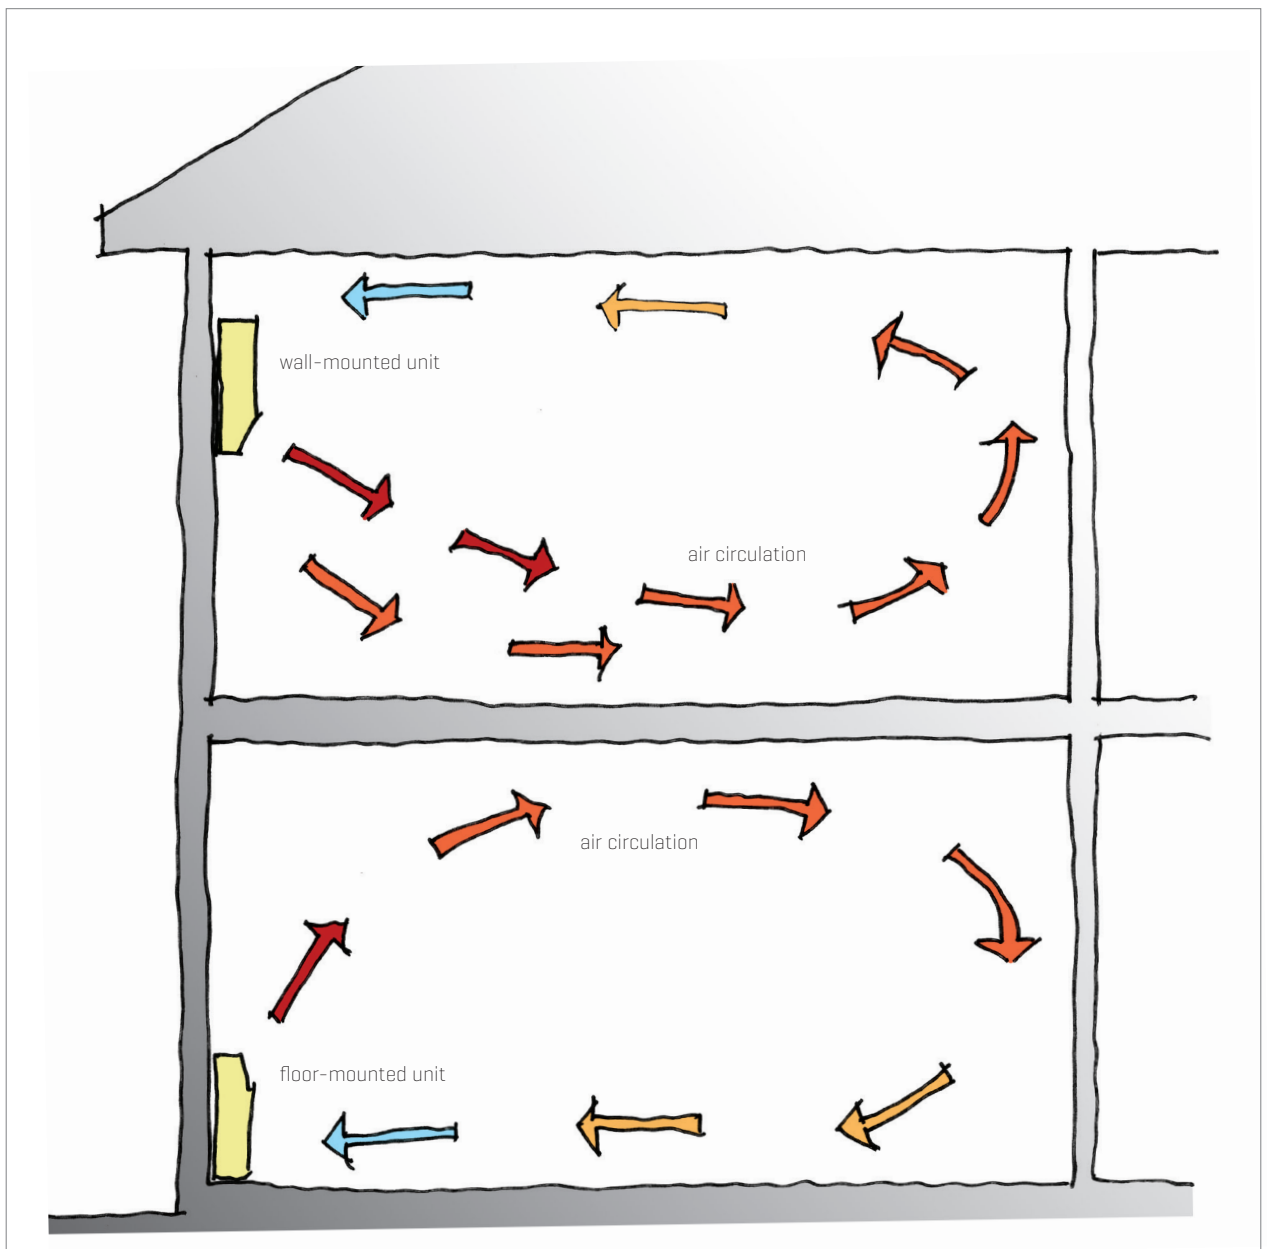

Figure 4. Indoor unit positions in a room.
7.0.2 An indoor unit is named by its position in a room (Figure 4):